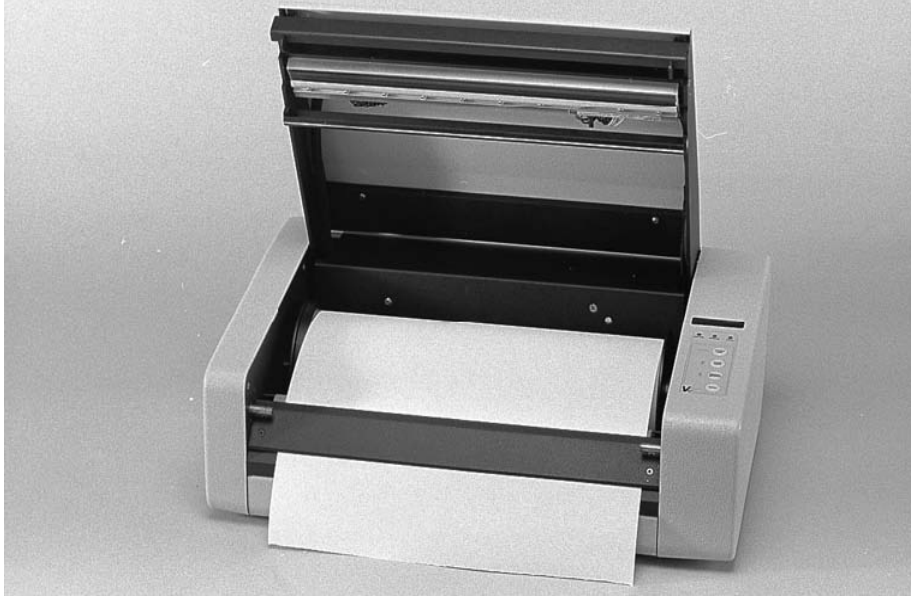

Figure 3-4 Roll paper installed
7. Figure 3-4 shows roll paper installed. When installing any media, ensure that the coated side of the media is on top. V12 Rev 2.0.2000
7. Figure 3-4 shows rolled media installed. When installing any media, ensure that the coated side of the media is on top.